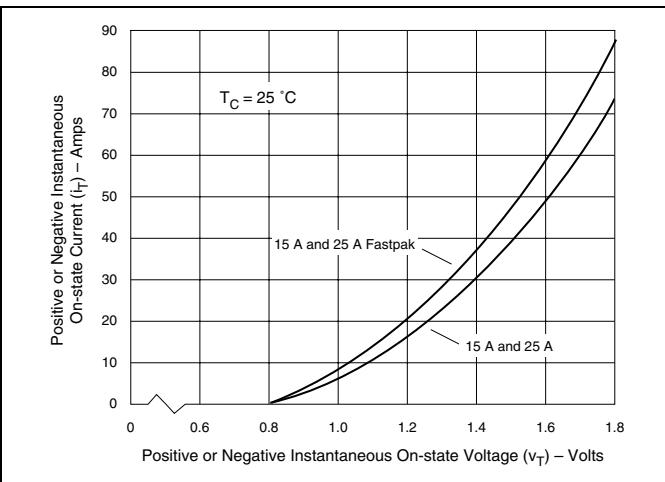
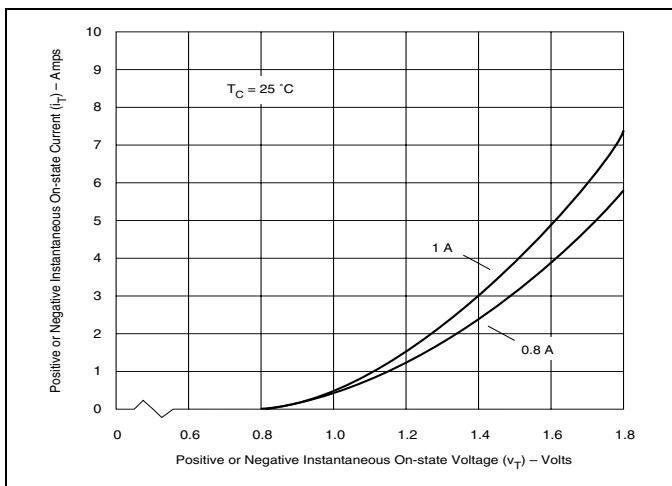

Figure E2.10 On-state Current versus On-state Voltage (Typical) (15 A and 25 A)
Figure E2.8 On-state Current versus On-state Voltage (Typical) (0.8 A and 1 A)
- (5) See Figure E2.8 through Figure E2.10 for I_T versus V_T.